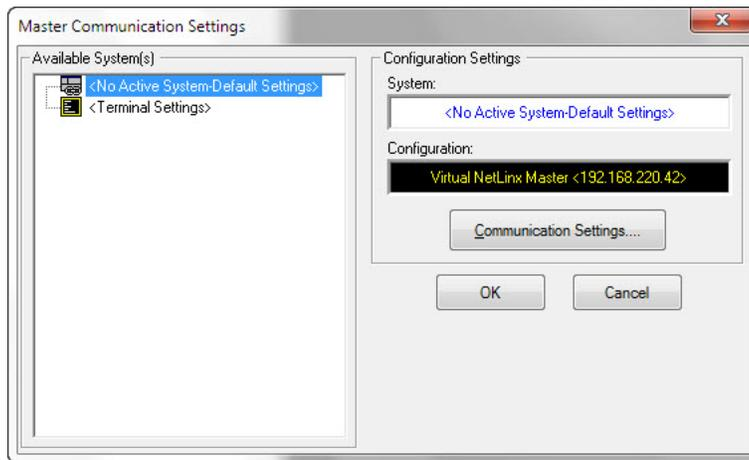

FIG. 29 Master Communications Settings dialog
1. Launch NetLinx Studio and select **Settings > Master Communication Settings** from the Main menu to open the *Master Communication Settings* dialog (FIG. 29)